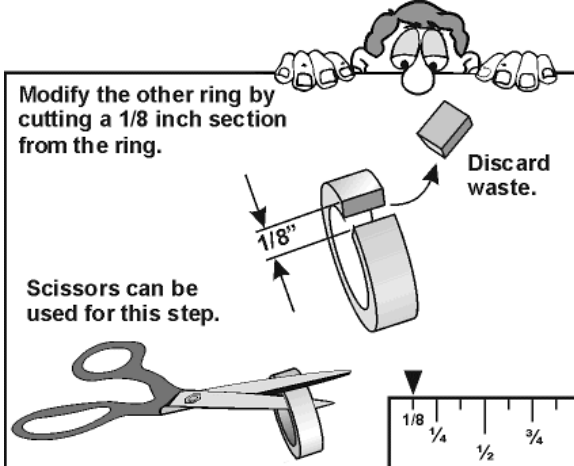

Figure 5
5. Referring to **Figure 5**, carefully cut out a 1/8" section from the other Centering Ring. Scissors can be used. **ADULTS** may wish to help with this step.